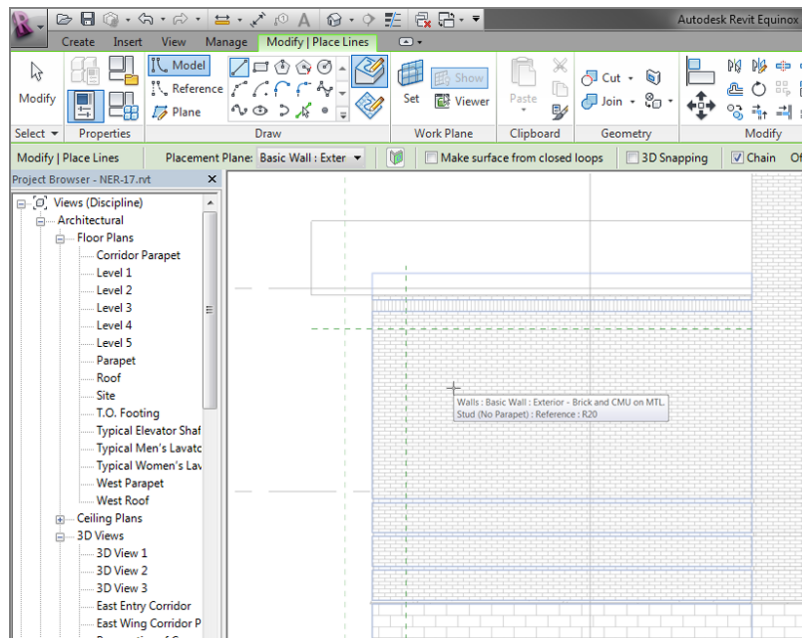

FIGURE 16.42: Setting the vertical work plane
1. In the Draw panel, click the Model line button (see Figure 16.42).